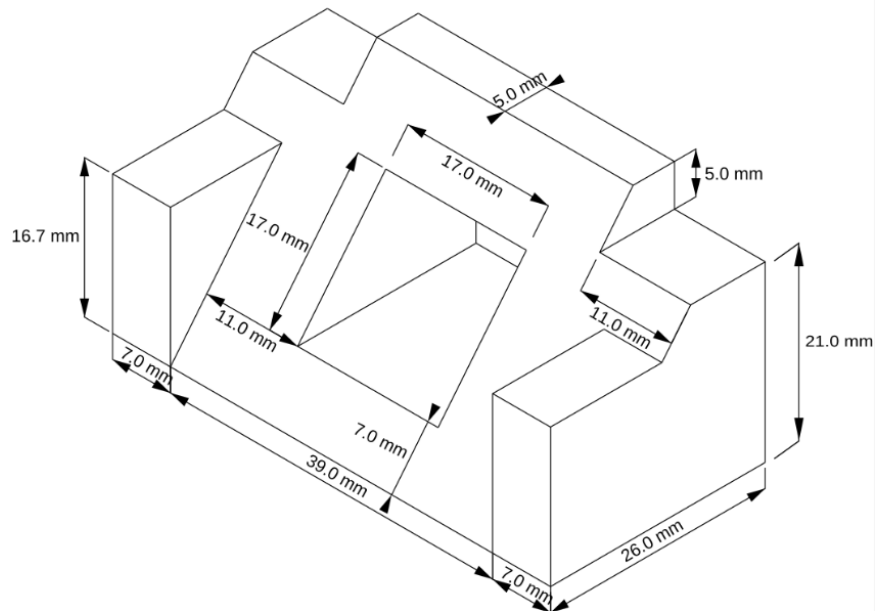

Figure 45 - Drawing of a typical part 2
1. Create a drawing of typical part 2 (Figure 45)